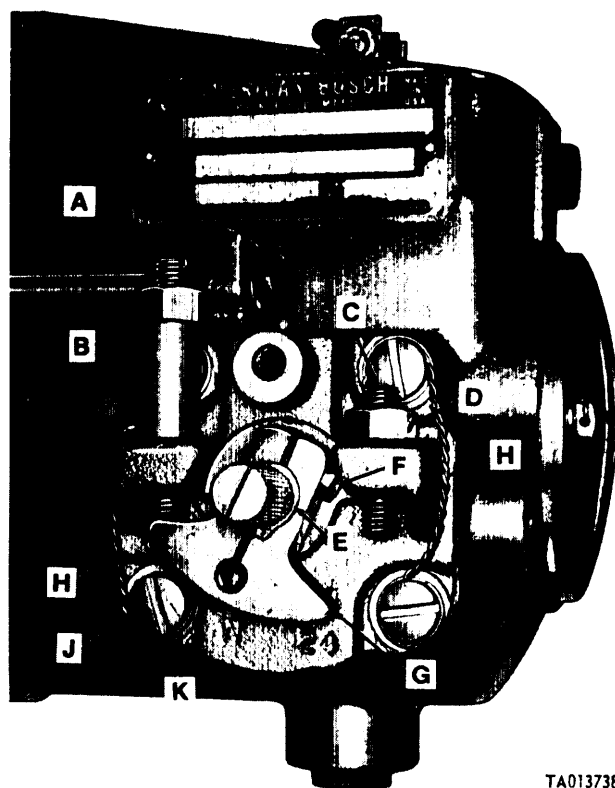

Figure 3-60. Removing adjustment screws, stop lever, operating shaft and associated parts.
(6) Refer to figure 3-60. Loosen locknuts (B and D). Remove idle adjustment screw (A) and locknut (B), high speed adjustment screw (C), and locknut (D).
(7) Remove retaining ring (E, fig. 3-60) using suitable pliers. Remove clamping screw (F) and stop lever (G).
(8) Refer to figure 3-60. Cut locking wire (H) and remove four bearing mounting machine screws (J). Remove and discard four gaskets (K).